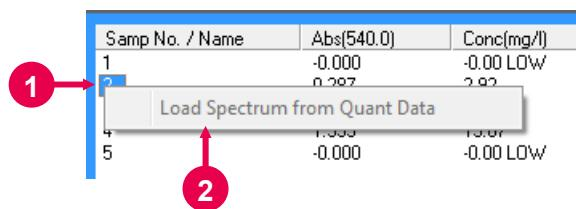

Fig. 5-63
- (2) Right-click the numerical part of the Samp. No./Name column in the sample measurement result indication area (refer to (1) in Fig. 5-63). The **Load Spectrum from Quant Data** button will appear (refer to (2) in Fig. 5-63). The same operation is possible in the area for standards.